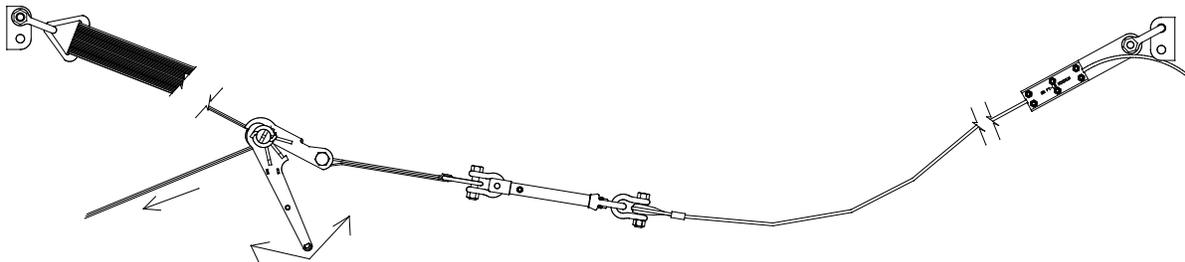

Fig. 14 Tensioning the Horizontal Lifeline
27. Begin lifting the horizontal lifeline cable assembly to its intended position (see Figure 14). If Bypass Stanchions are being used, the cable must be placed through the center of the bypass fittings before the cable is properly tensioned. Pass the free end of the ratchet strap into the slot of the ratchet. Pull the free end of the ratchet strap to help remove slack from the lifeline cable.